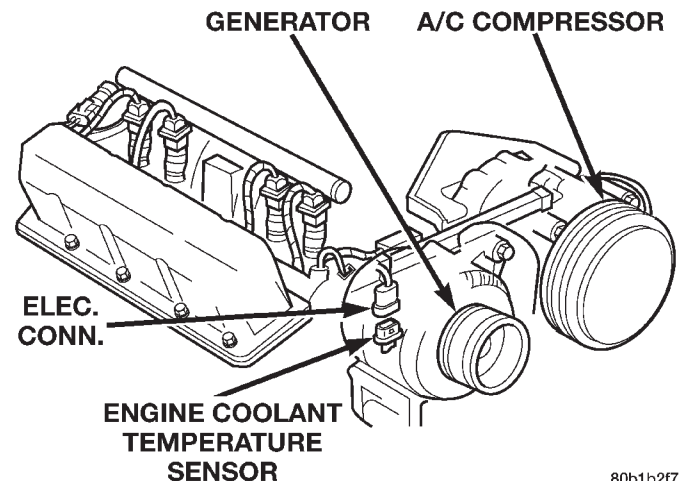

Fig. 22 Engine Coolant Temperature Sensor
(19) Verify wire harness connector is firmly connected to engine coolant temperature sensor (Fig. 22).